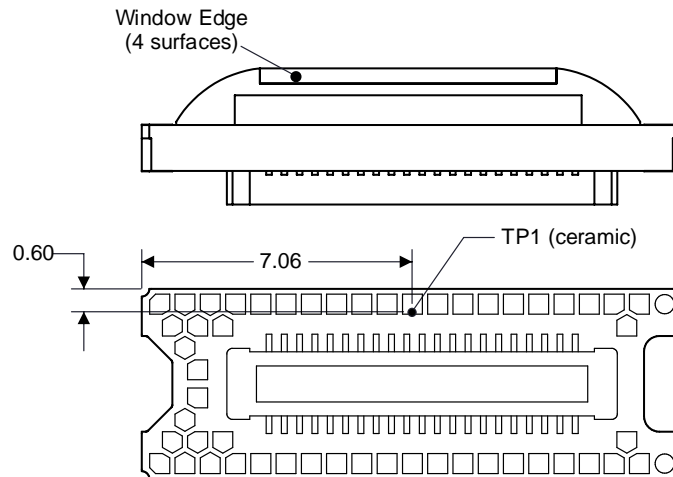

Figure 10. DMD Thermal Test Point
- T_{CERAMIC} = Measured ceramic temperature (°C), TP1 location in Figure 10
- Q_{ARRAY} = Total DMD power; electrical plus absorbed (calculated) (W)
- $Q_{\text{ELECTRICAL}}$ = Nominal DMD electrical power dissipation (W)